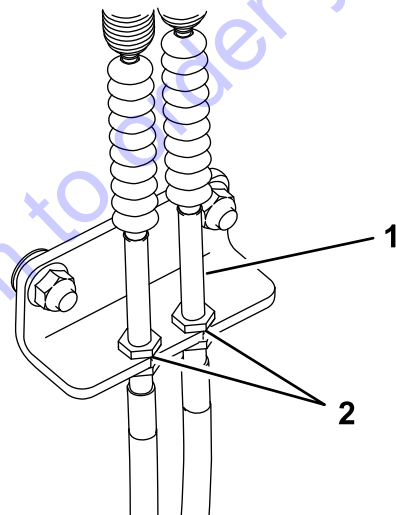

Figure 48
2. Inside the left side of the control tower, adjust the nuts until the cables are taut (Figure 48).